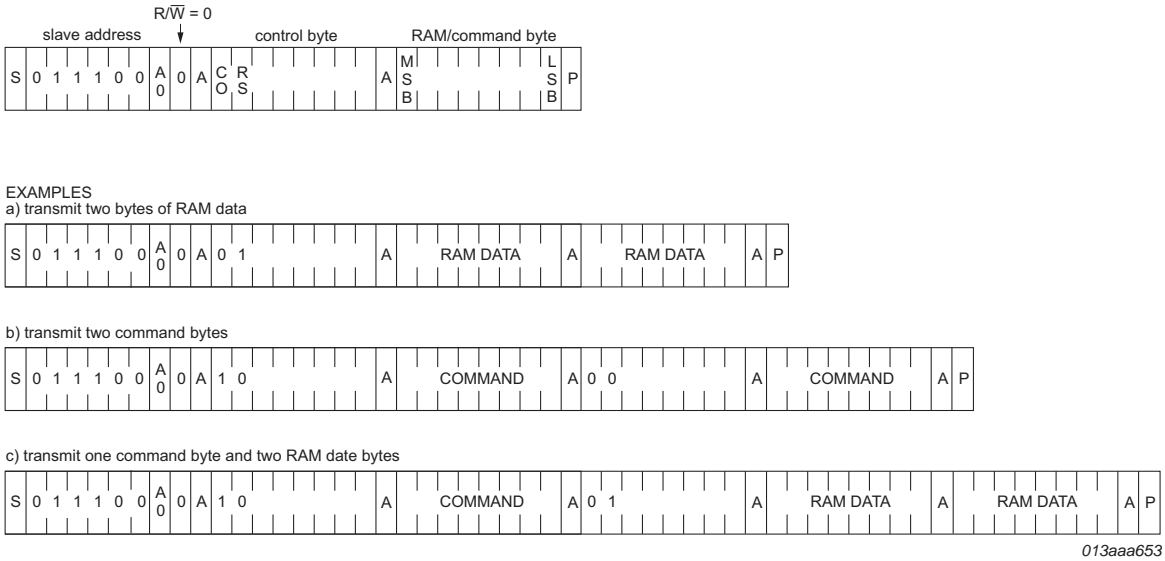

Fig 46. I²C-bus protocol, write mode
The I²C-bus protocol is shown in Figure 46. The sequence is initiated with a START condition (S) from the I²C-bus master which is followed by one of the two PCF8537AH slave addresses available. All PCF8537AH's with the corresponding A0 level acknowledge in parallel to the slave address, but all PCF8537AH with an alternative A0 level ignore the whole I²C-bus transfer.